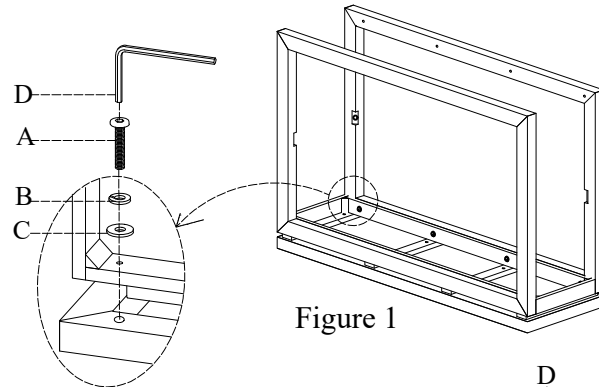

Figure 1
2. Attach leg frames to the table top using Bolt (A), Lock Washer (B), Flat Washer (C) and Allen Wrench (D). As Shown in Figure 1. (Do not tighten bolts).